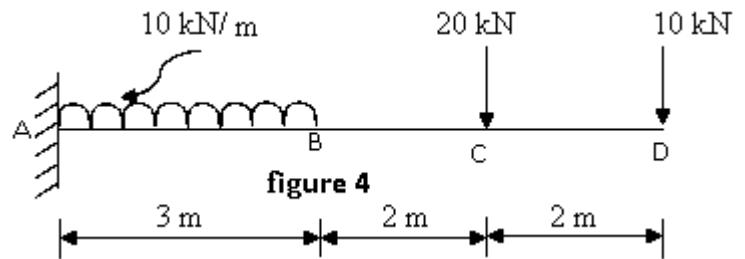

figure 4
- (c) Draw shear force diagram and bending moment diagram for beam shown in **figure 4**. **07**